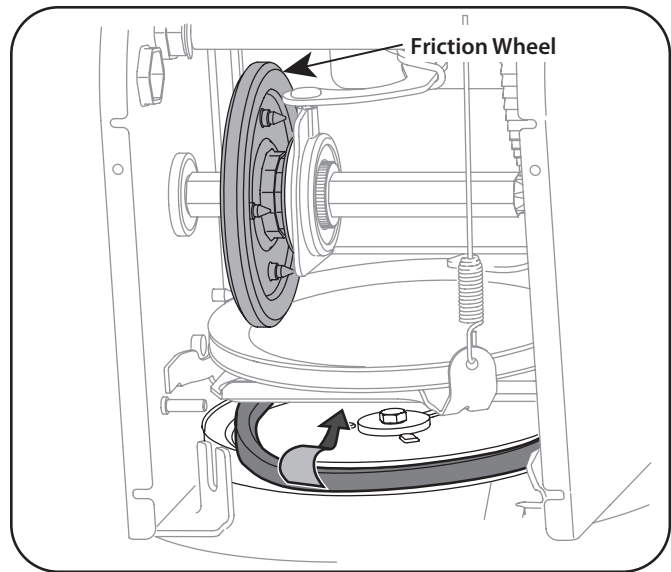

Figure 7-7
7. Remove the belt from around the auger pulley, and slip the belt between the support bracket and the auger pulley. See Figure 7-7.